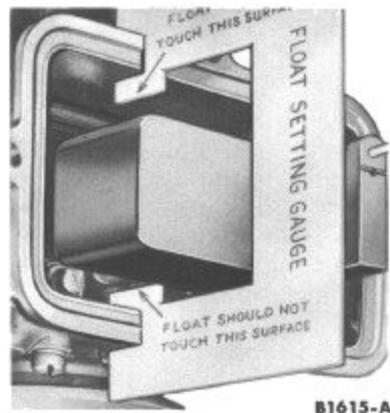
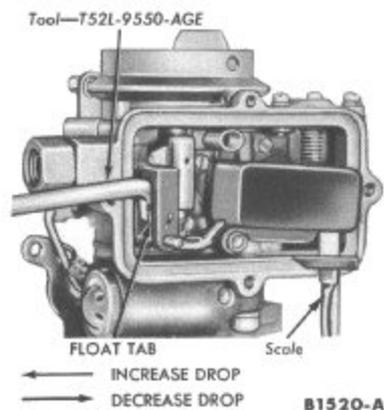

FIG. 28—Bench Float Setting
FIG. 29—Float Drop
16. Invert the main body assembly, and check the setting of the float (Fig. 28). With the main body in the upright position, check the float drop (Fig. 29). Make sure the clearance between the bottom of the float chamber to the lowest point of the float is to specifications. Bend the upright tang on the float lever to achieve the correct clearance.